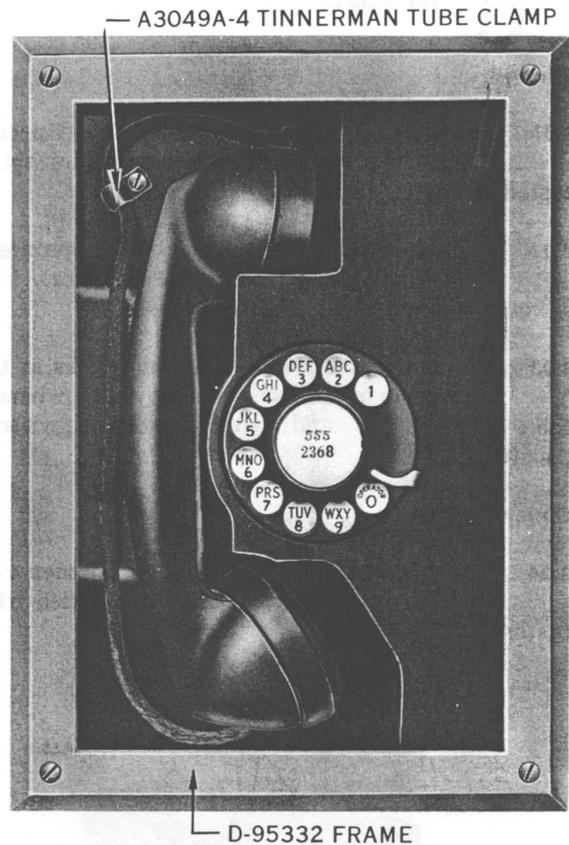

Fig. 1 — 322-Type Telephone Set, Front View
2.01 The 322C is a flush-mounted, wall type dial telephone set designed to be used in elevators. It may also be used in corridors and in building entrances (Fig. 1).
- 3.10** The D-95332 frame is shown in Fig. 1.